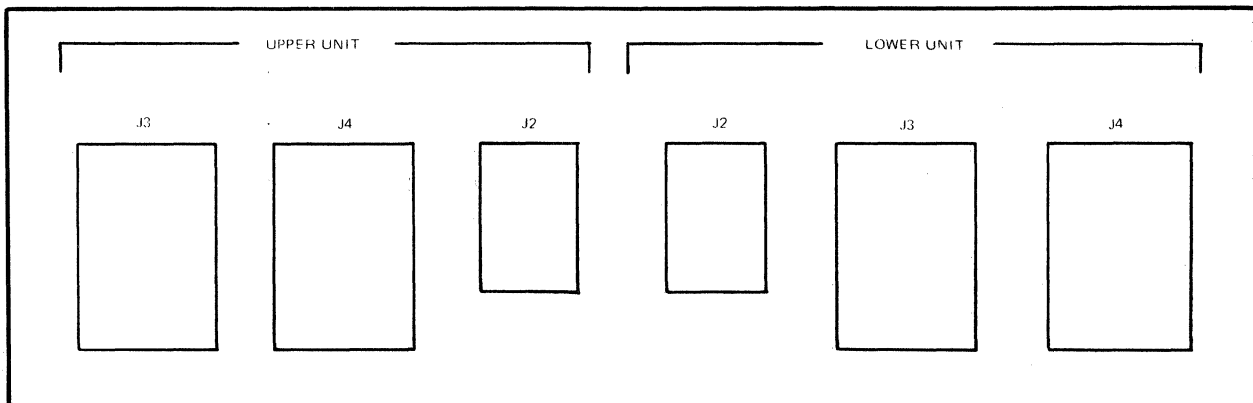

Figure 2-11 Bulkhead I/O Panel
21. Locate bulkhead I/O panel at rear of mass storage unit cabinet 1 (see Figure 2-11).
24. There are two bulkhead connectors on end of cable B 60128779-001. Route either cable B bulkhead connector into cable entry area at base of mass storage unit cabinet 1. Connect this bulkhead connector to receptacle J2 on UPPER UNIT portion of I/O panel (see Figure 2-11). Finger tighten the two jackscrews on bulkhead connector, ensuring that mating connector bodies are fully seated together.
25. Locate the other bulkhead connector on cable B 60128779-001 or 60128779-002 and route it into cable entry area at base of mass storage unit cabinet 2. Connect this bulkhead connector to receptacle J2 on UPPER UNIT portion of I/O panel (see Figure 2-11). Finger tighten the two jackscrews on bulkhead connector, ensuring that mating connector bodies are fully seated together.
24. Locate I/O panel at rear of mass storage unit cabinet 1 (see Figure 2-11).
25. Connect cable A 60128778-001 bulkhead connector to J3 on UPPER UNIT portion of I/O panel and finger tighten the two jackscrews on connector (see Figures 2-11 and 2-12) ensuring that mating connector bodies are fully seated together.
27. There are two bulkhead connectors on this end of cable B. Connect one (either) bulkhead connector to J2 on UPPER UNIT portion of I/O panel, and connect the other bulkhead connector to J2 on LOWER UNIT portion of I/O panel (see Figures 2-11 and 2-12). Finger tighten the two jack-screws on each bulkhead connector, ensuring that mating connector bodies are fully seated together.
29. There are two bulkhead connectors on this end of cable B. Connect one (either) bulkhead connector to J2 on UPPER UNIT portion of I/O panel, and connect the other bulkhead connector to J2 on LOWER UNIT portion of I/O panel (see Figures 2-11 and 2-12). Finger tighten the two jack-screws on each bulkhead connector ensuring that mating connector bodies are fully seated together.
31. Within each mass storage unit cabinet, connect one end of cable C 60128781-001 to J4 on UPPER UNIT portion of I/O panel and connect other end of cable C to J3 on LOWER UNIT portion of I/O panel (see Figures 2-11 and 2-12). Finger tighten the two jackscrews on each bulkhead connector ensuring that mating connector bodies are fully seated together.
33. Route one end of cable C 60128781-003 or 60128781-002 into cable entry area at base of mass storage unit cabinet 1 and connect bulkhead connector to J4 on LOWER UNIT portion of I/O panel (see Figures 2-11 and 2-12). Finger tighten the two jackscrews on bulkhead connector ensuring that mating connector bodies are fully seated together.
34. Route other end of cable C 60128781-003 or 60128781-002 into cable entry area at base of mass storage unit cabinet 2 and connect bulkhead connector to J3 on UPPER UNIT portion of I/O panel (see Figures 2-11 and 2-12). Finger tighten the two jackscrews on bulkhead connector ensuring that mating connector bodies are fully seated together.
36. Within mass storage unit cabinet 2, connect I/O terminator 60134260-013 to J4 on LOWER UNIT portion of I/O panel (see Figures 2-11 and 2-12). Finger tighten the two jackscrews on bulkhead connector, ensuring that connector bodies are fully seated together.